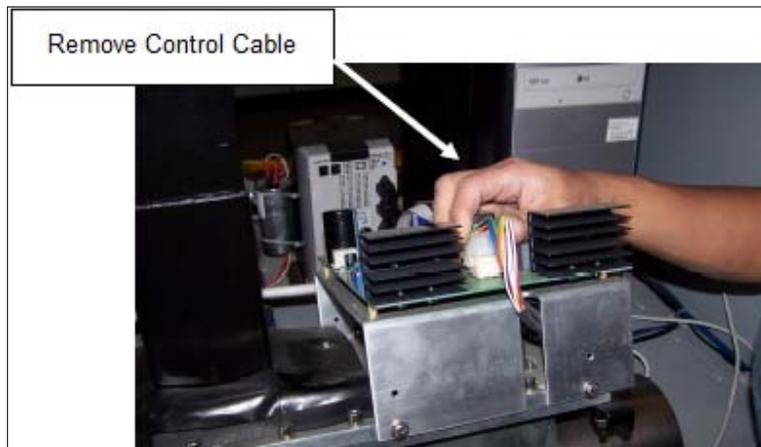
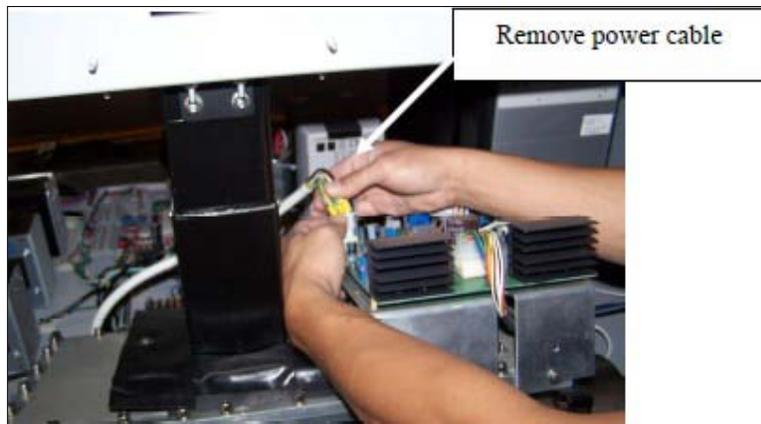

Figure 198: Removing Control Board Control Cable
Figure 199: Removing Control Board Power Cable
3. Disconnect the control and power cables from the control board (Figure 198 and Figure 199).